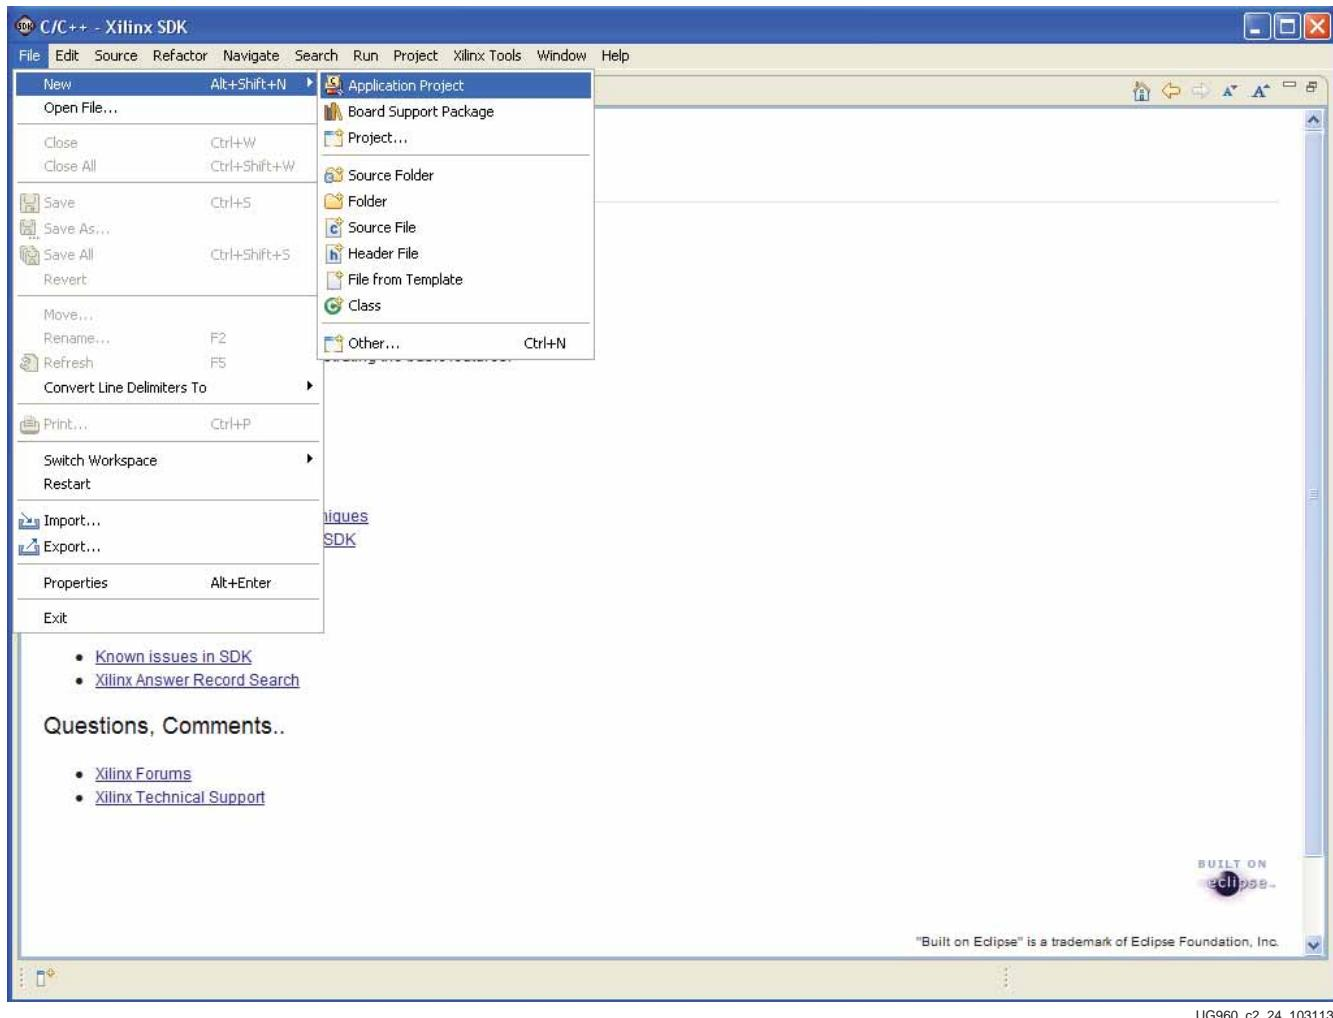

Figure 2-24: Creating a New Application Project
4. Click **File > New > Application Project** as shown in Figure 2-24.